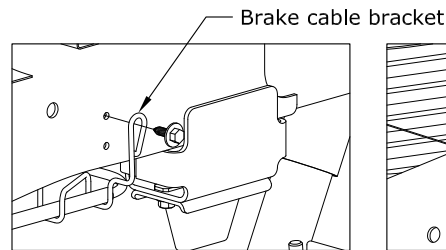

FIGURE C1: View from outside of Driver Side Frame.
- 1. Prepare to install sideplates.** Before installing the sideplates it is necessary to temporarily remove a brake cable bracket on the driver side of the frame. See figure C1. The M8 bolt will be needed to re-attach the bracket in a later step.